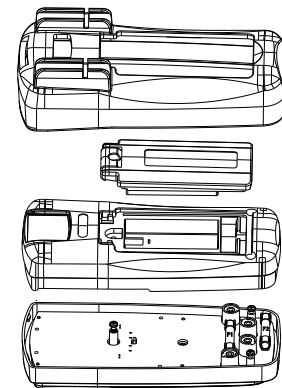

Figure 11
2. Replacements (see Figure 11)